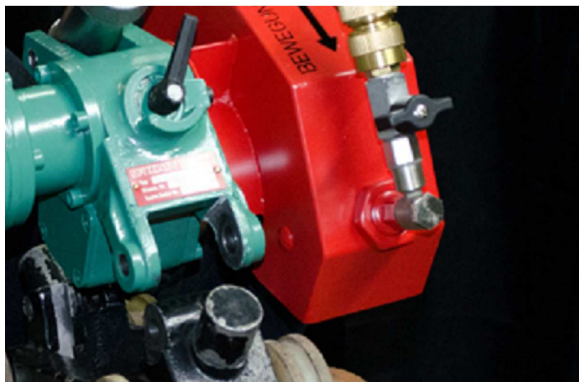
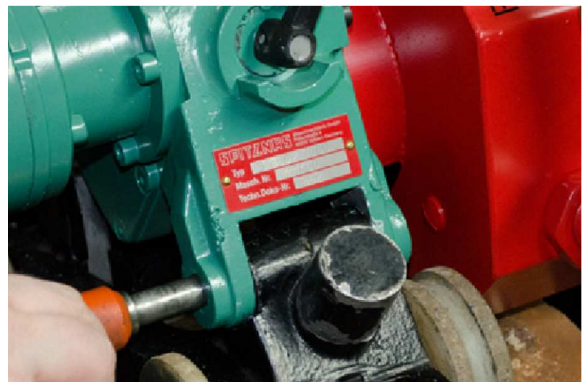

Fig. 4.1
Fig. 4.2
4. Put the drive unit onto the guide carriage and fix it with the ball lock bolt \varnothing 12 mm (see fig. 4.1 respectively fig. 4.2).